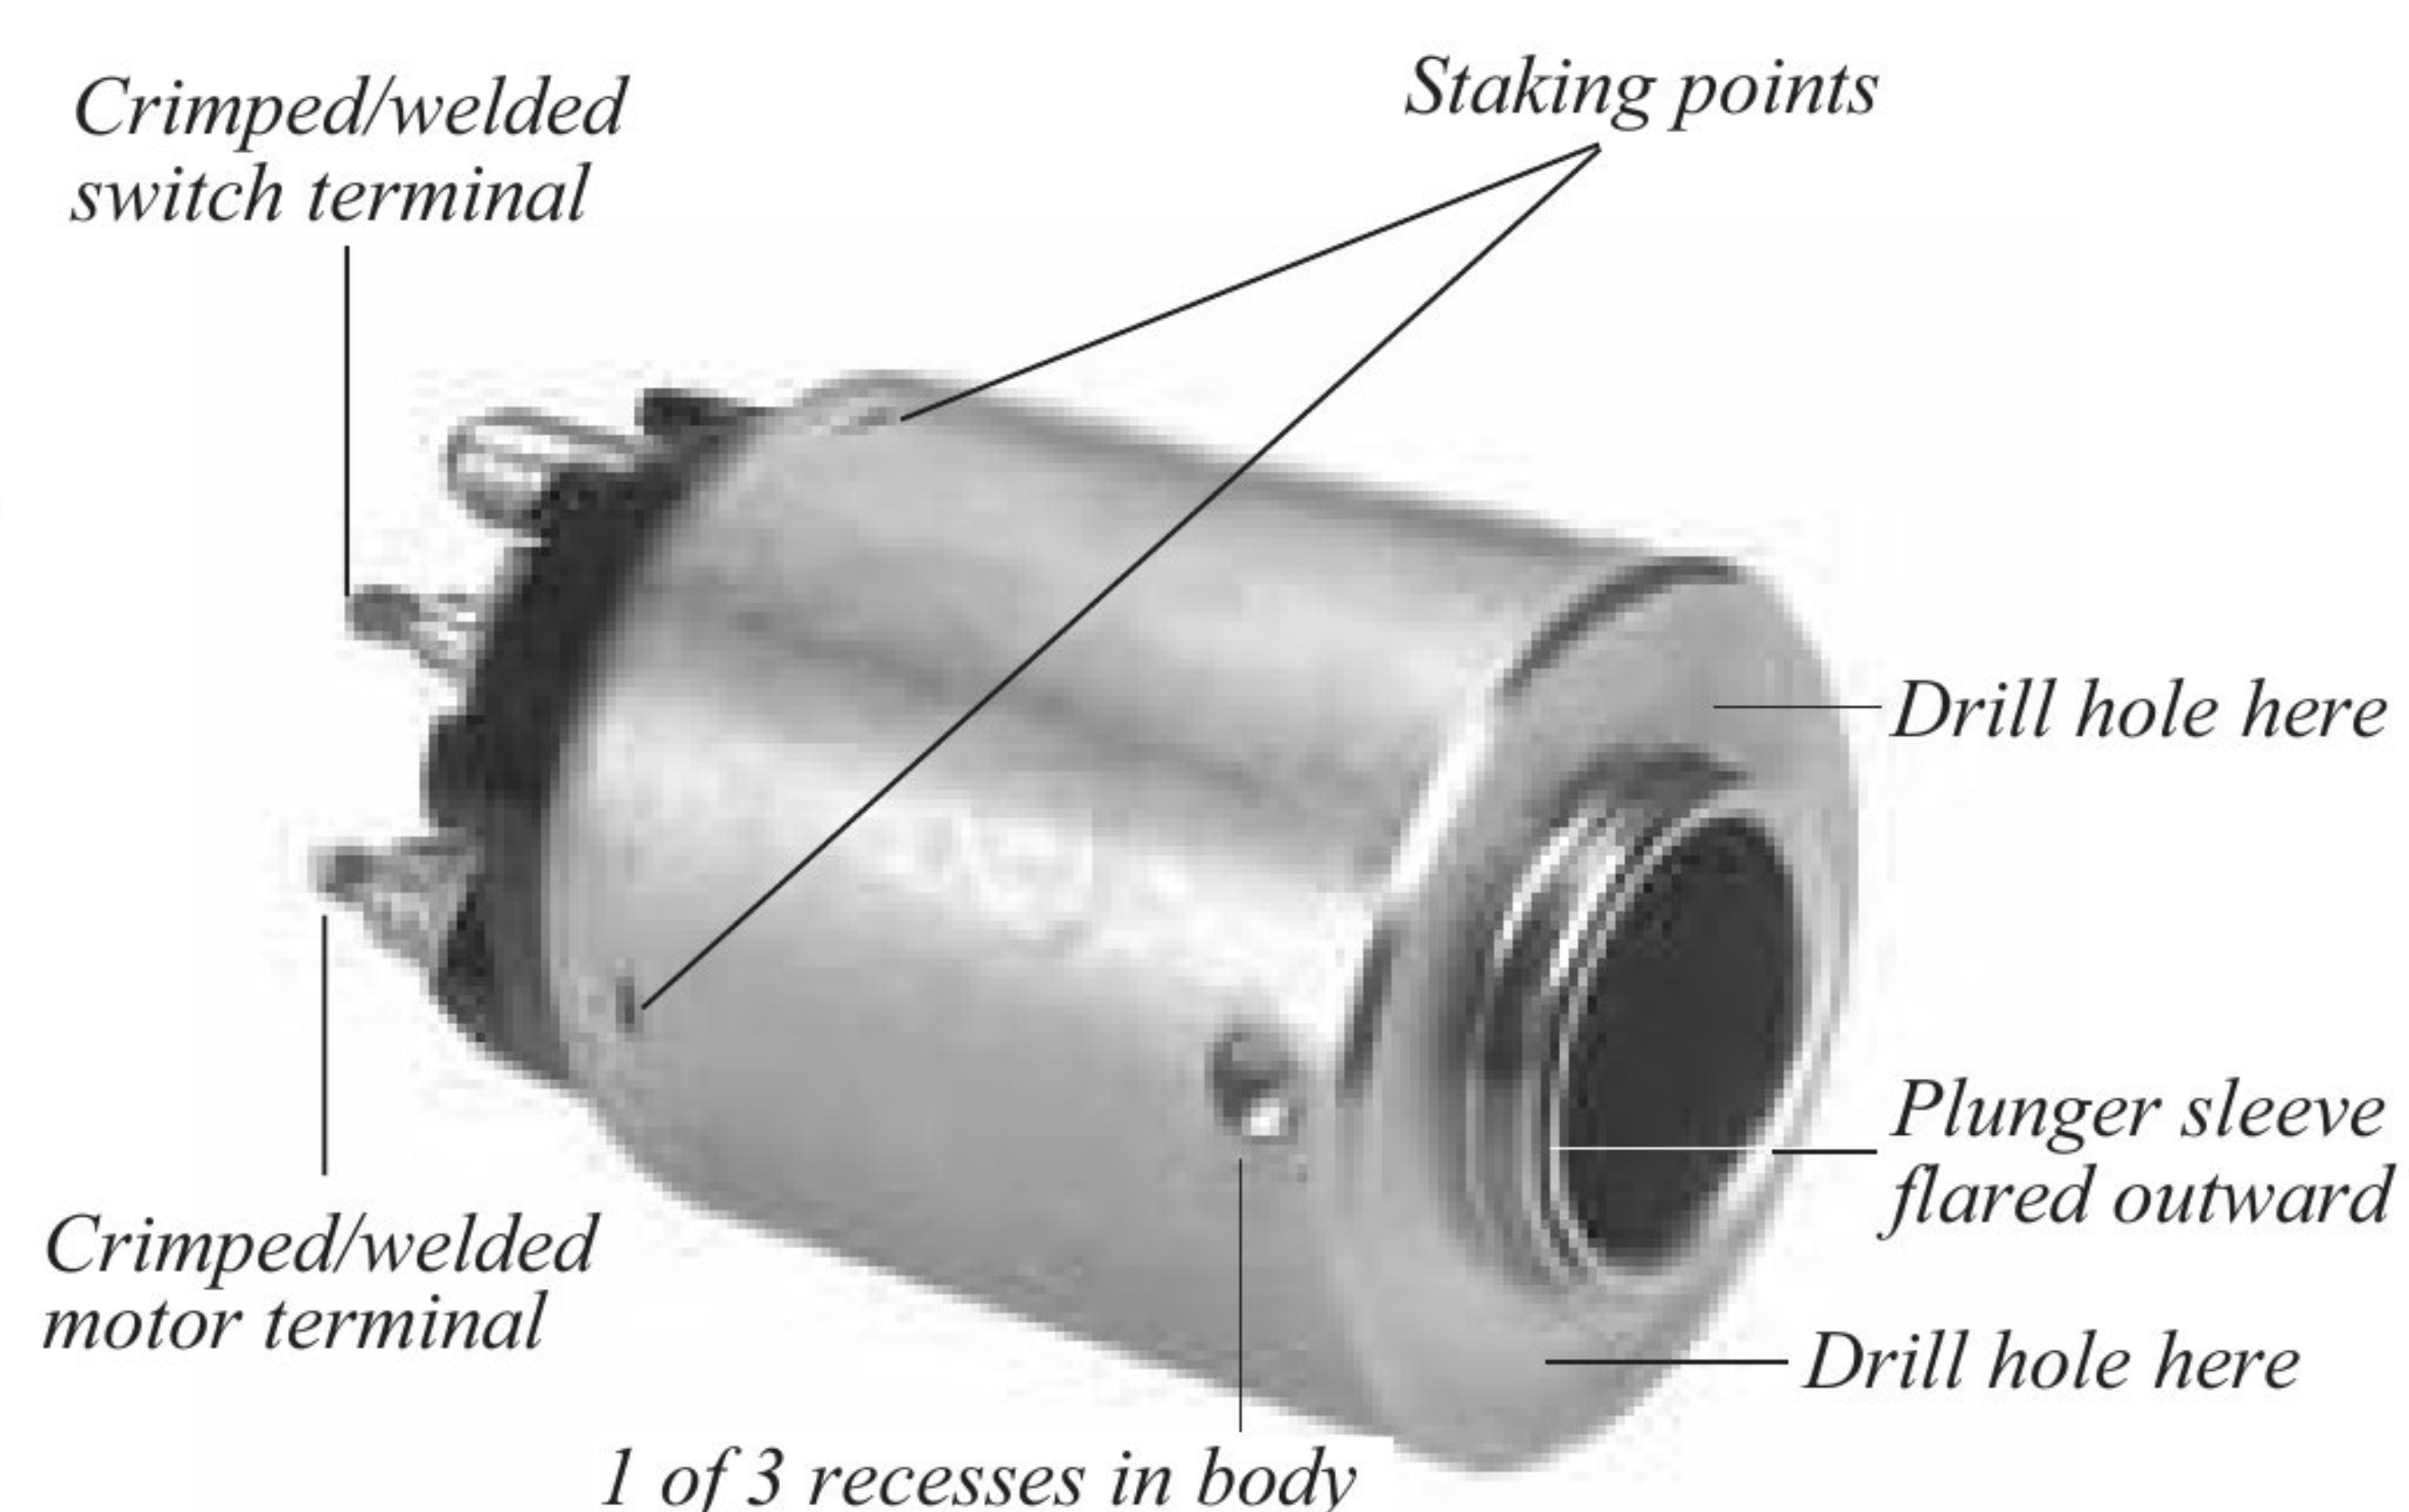

Figure 4. Delco solenoids require a few special procedures.
Delco solenoids (WAI #66-121), on the other hand, are a more challenging project than Ford for several reasons. First, there are no threaded holes for attaching the base plate. Second, the plunger sleeve is flared outward, so the flared end must be removed before the solenoid will come apart. (See Figure 4.) Third, later style solenoids have RTV sealant sealing the coil at the plunger opening. Finally, keep in mind that early solenoids have a round contact disk, whereas later ones have a rectangular contact disk.
2. Using a lathe, cut off the flared end of the plunger sleeve. (See Figure 4.)
9. Using a suitable tool, remove the four staking points that retain the ground plate in the solenoid body. These staking points are visible on the outside of the solenoid body. (See Figure 4.) You can make a tool for doing this by grinding a round punch at an angle.
- a. Drill two holes 1/4" in diameter and 180 degrees apart to a depth of about .275." (We recommend using a drill press so you can set a stop. That way you will avoid drilling into the coil.) (See Figure 4.)